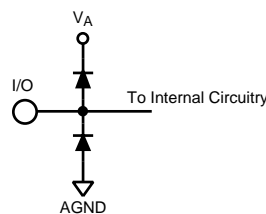

Figure 2.
- (1) The inputs are protected as shown below. Input voltage magnitudes above V_A or below GND will not damage this device, provided current is limited per Note 4 of the Absolute Maximum Ratings Table. However, errors in the A/D conversion can occur if the input goes above 2.6V or below GND as described in the Operating Ratings section. See Figure 2.
- (2) With a full scale differential input of $2V_{P-P}$, the 14-bit LSB is 122.1 μV .
- (3) Typical figures are at $T_A = 25^\circ C$ and represent most likely parametric norms at the time of product characterization. The typical specifications are not ensured.
- (4) Parameters specified in dBFS indicate the value that would be attained with a full-scale input signal.
- (3) Typical figures are at $T_A = 25^\circ\text{C}$ and represent most likely parametric norms at the time of product characterization. The typical specifications are not ensured.
- (4) I_{DR} is the current consumed by the switching of the output drivers and is primarily determined by load capacitance on the output pins, the supply voltage, V_{DR} , and the rate at which the outputs are switching (which is signal dependent). $I_{DR} = V_{DR}(C_0 \times f_0 + C_1 \times f_1 + \dots + C_{13} \times f_{13})$ where V_{DR} is the output driver power supply voltage, C_n is total capacitance on the output pin, and f_n is the average frequency at which that pin is toggling.
- (4) This parameter is ensured by design and/or characterization and is not tested in production.
- (5) I_{DR} is the current consumed by the switching of the output drivers and is primarily determined by load capacitance on the output pins, the supply voltage, V_{DR} , and the rate at which the outputs are switching (which is signal dependent). $I_{DR} = V_{DR}(C_0 \times f_0 + C_1 \times f_1 + \dots + C_{13} \times f_{13})$ where V_{DR} is the output driver power supply voltage, C_n is total capacitance on the output pin, and f_n is the average frequency at which that pin is toggling.